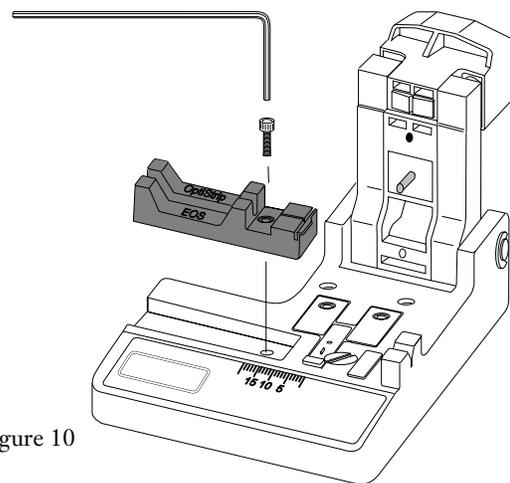

Figure 10
- Use a 2.5 mm hex key to remove the hex-head cap screw which secures the guide to the cleaver base (Figure 10).